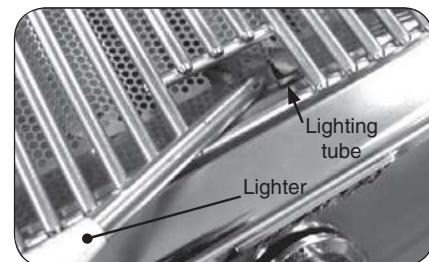

Fig. 23-2 - Manual lighting
**CAUTION:** Always wait five (5) minutes for gas to clear after any unsuccessful lighting attempt.
2. Insert either a burning long-barrel butane lighter or a burning long-stem match through the cooking grid opening to the top of the lighting tube. (Fig. 23-2). For backburners, hold the flame against the surface of the backburner.
4. If the burner does not light within five (5) seconds of turning the control knob, **immediately depress the knob and turn the valve to OFF**. **WAIT FIVE (5) MINUTES** before repeating steps 2 through 4 of the **MANUAL LIGHTING** instructions.